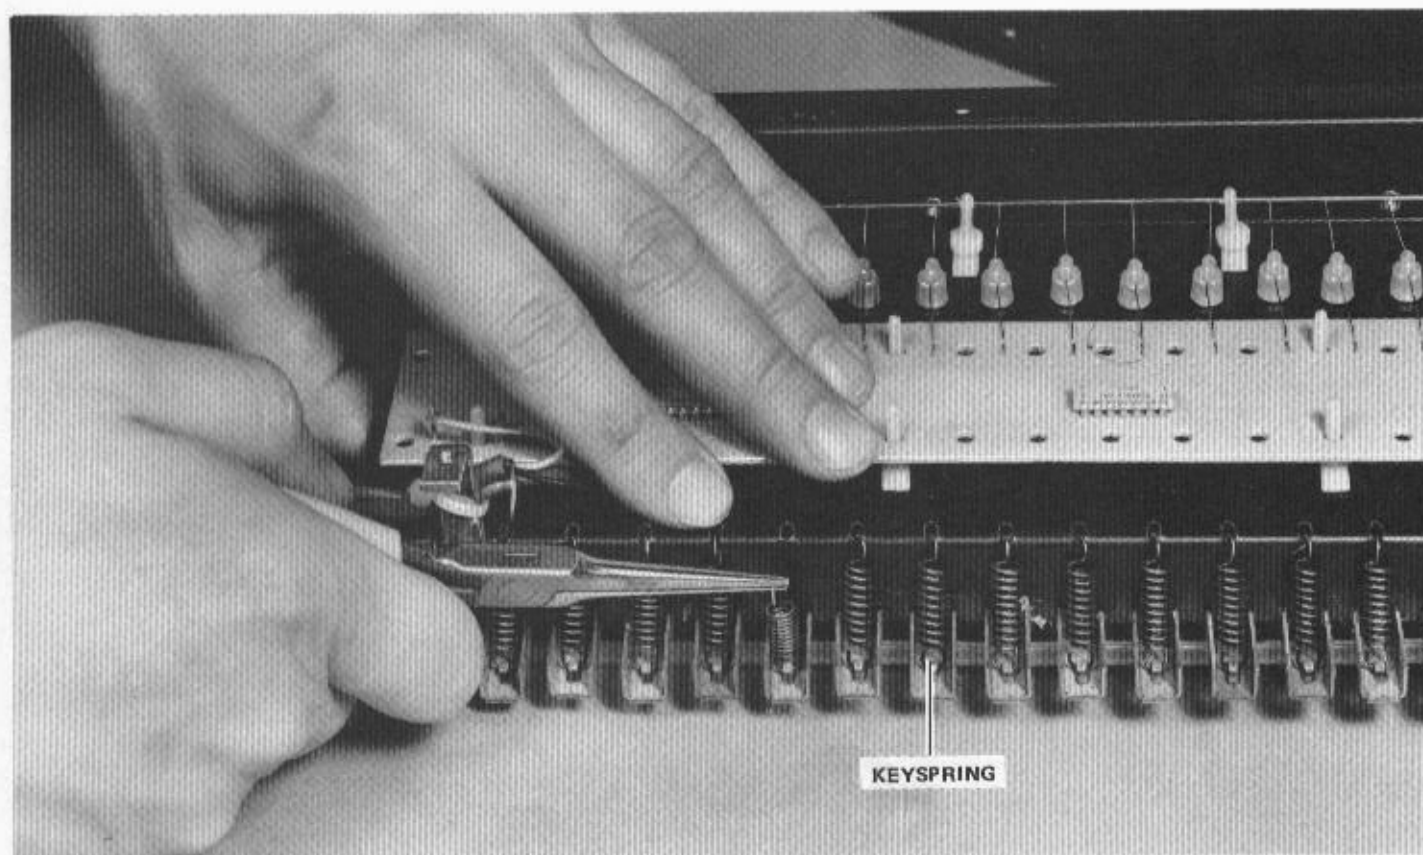

FIGURE 3-10 KEYSRING REPLACEMENT
c) Key springs provide the return force for the keys. The springs are color coded to indicate their tension. Black keys require a greater tension and use RED springs. White keys use BLACK springs. (See Figure 3-10)